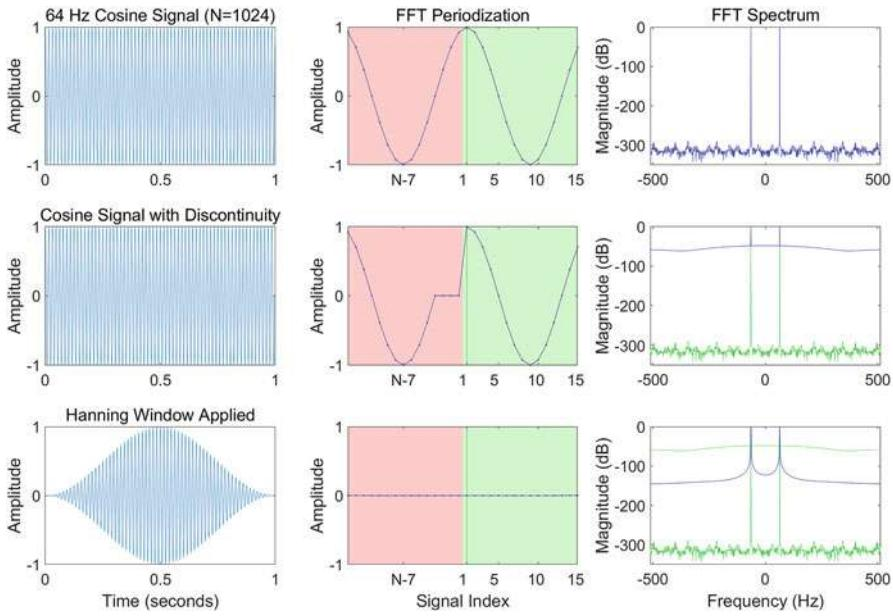

Fig. 10.16: Window edge effects
This is illustrated in Fig. 10.16 where we start with a 64 Hz cosine (top left). We pick the frequency of the cosine and FFT length ( $N = 1024$ ) such that when the FFT causes the signal to repeat outside of the  $N = 1024$  rectangular window, the period of the 64 Hz cosine aligns well with the effective periodization. This is shown in the top center plot where the left side (in red) is at the end of the signal window and the green segment on the right side is where the signal has been effectively replicated in time. The FFT spectrum in this case is shown (top right). The rectangular window used had  $N = 1024$  points, which resulted in a very narrow sinc spectrum in the frequency domain. The noise floor of the FFT spectrum is very low ( $-314$  dB) because of the cosine that aligned perfectly with the window edges as it was replicated in time. This perfect alignment rarely happens in practice except in contrived cases like this one shown.
What typically happens is that the frequency components do not align nicely with the window replication. This is modeled in the example shown in the middle row of Fig. 10.16. Here we illustrate a typical practice of zero padding in order to get a power of two length that we want when applying the FFT. In this example we just set the last three points to zero. This causes a discontinuity to occur when the FFT replicates the signal (middle plot). The left side (in red) is at the end of the signal window and the green segment on the right side is where the signal has been effectively replicated in time. The FFT spectrum is now significantly different where the noise floor changed from  $-314$  dB (shown as the green signal) to  $-55$  dB (in blue). The discontinuity at the window edge has significantly changed the spectrum.
**To get rid of discontinuities at the window edges, we can no longer use a rectangular window.** We need a window that squashes the ends down to zero so that when the signal is replicated by the FFT, there are no discontinuities. A commonly used window that does this is the **Hanning** (or Hann) window. A Hanning window ( $N = 1024$ ) applied to the 64 Hz cosine signal with the edge discontinuity is shown in the bottom left plot in Fig. 10.16. We can see that there are no discontinuities at the window edges (middle plot). This improves the spectrum representation where the FFT floor drops from  $-55$  dB (green) to  $-140$  dB (blue) as seen in the bottom right plot. The  $-314$  dB noise floor is also plotted in green. Note that the spectrum of the Hanning window has been convolved with the cosine line spectrum, so the Hanning spectrum can be seen in the blue spectrum curve. The Hanning window is only one of many windows that we can use, which gets us into the next section on window trade-offs.